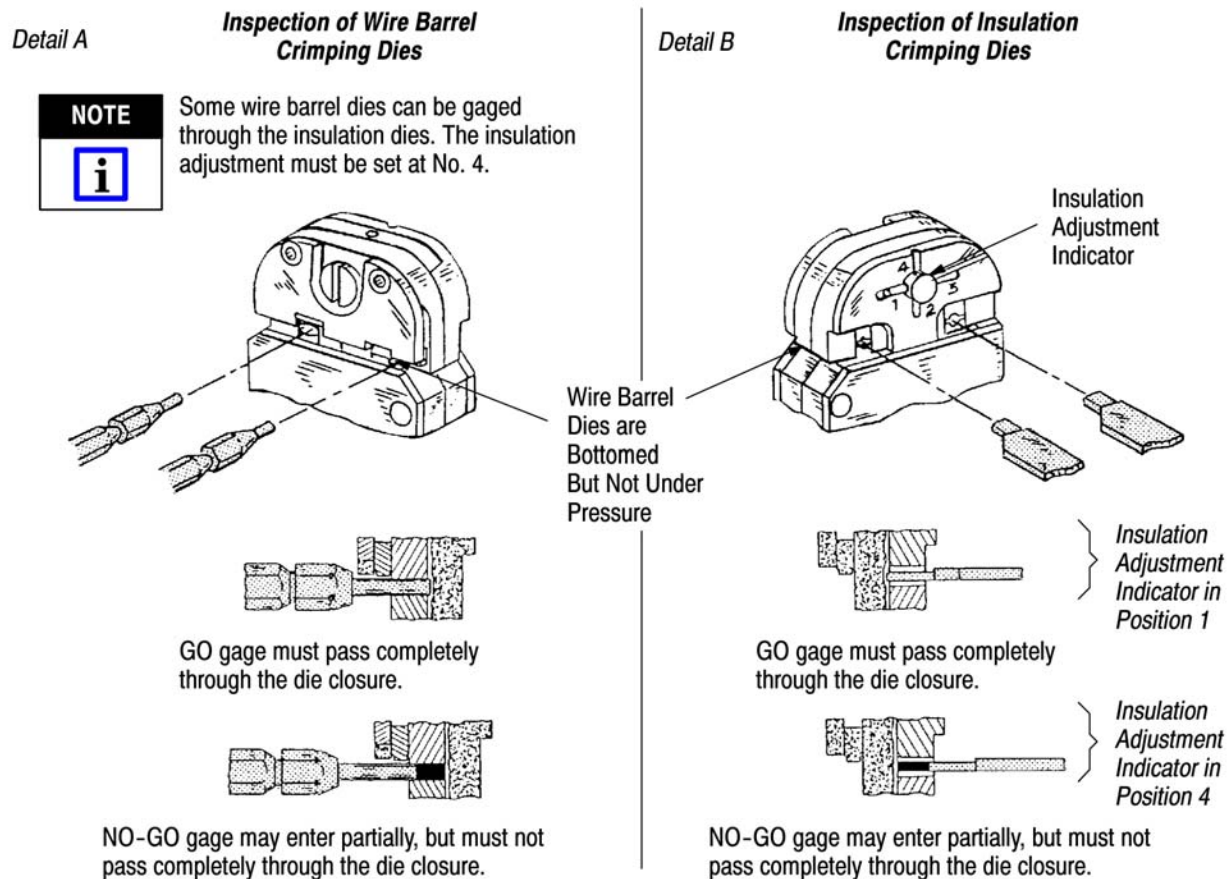

Figure 12
To gage the crimping area(s), refer to Figure 12 and proceed as follows:
chamber. Carefully try to insert, without forcing, the GO element. See Figure 12, Detail A. The GO element must pass completely through the crimping area.
5. Set insulation adjustment indicator in Position 1. Measure both insulation crimping chambers with the proper GO plug gages in the same manner as Steps 2 and 3. See Figure 12, Detail B.
6. Set insulation adjustment indicator in Position 4. Measure both insulation crimping chambers with the proper NO-GO plug gages in the same manner as Steps 2 and 4. See Figure 12, Detail B.